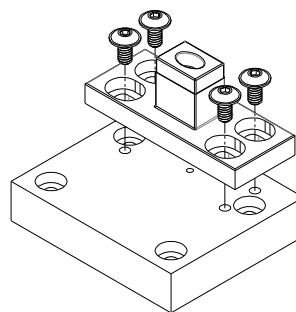

Figure 13:
3. Assemble the top section of the Archetype Floor Pivot using a $5/32"$ hex key (Figure 13). Verify and adjust the position of the Archetype Floor Pivot as necessary (Figure 14), retighten.